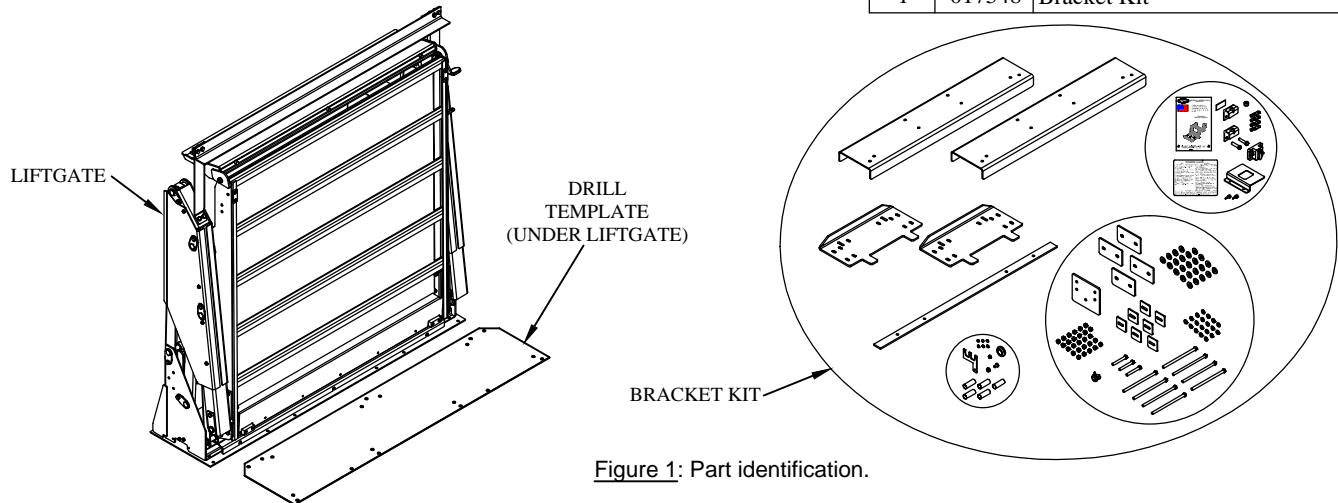

Figure 1: Part identification.
2. **Verify** mounting kit, liftgate, and other components (Figure 1 and Table 1).
12. **Remove** the drill template from the pallet (Figure 1).